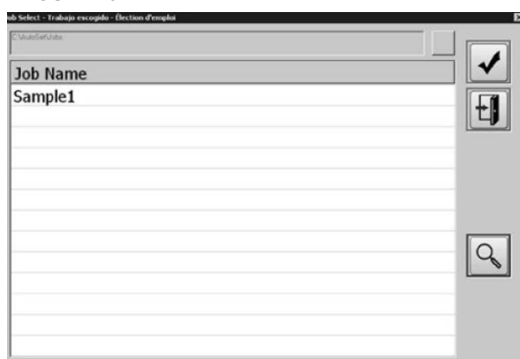

FIGURE 26
6. Click the Select Job icon (Figure 26) to see if the job is found (Figure 26)